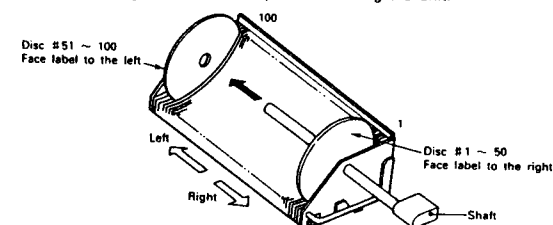

Figure 12
2) Place the discs on the disc racks. (referring to Figure 12. 13.)